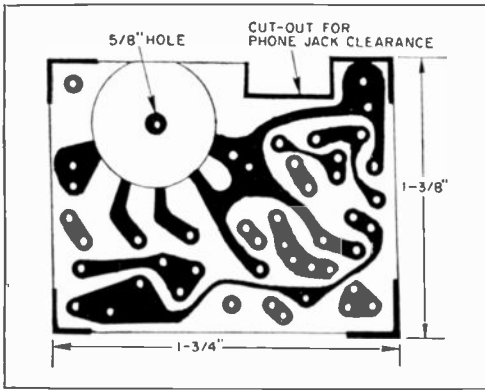

Fig. 2. Actual-size printed board. Potentiometer R9 (with S3 attached) is a printed circuit type (Lafayette 99 R 6019) and solders directly into board.
**Construction.** Layout of the printed board is shown in Figs. 2 and 3, while Fig. 4 illustrates the method of mounting used by the author. The printed board is secured to the bottom of the case with three 2-56, 1/2"-long bolts, using nuts
Fig. 2. If you use the recommended-size utility cabinet, you can follow these dimensions when you lay out the cabinet. Compare your speaker and meter sizes with the respective cutouts before punching any holes.